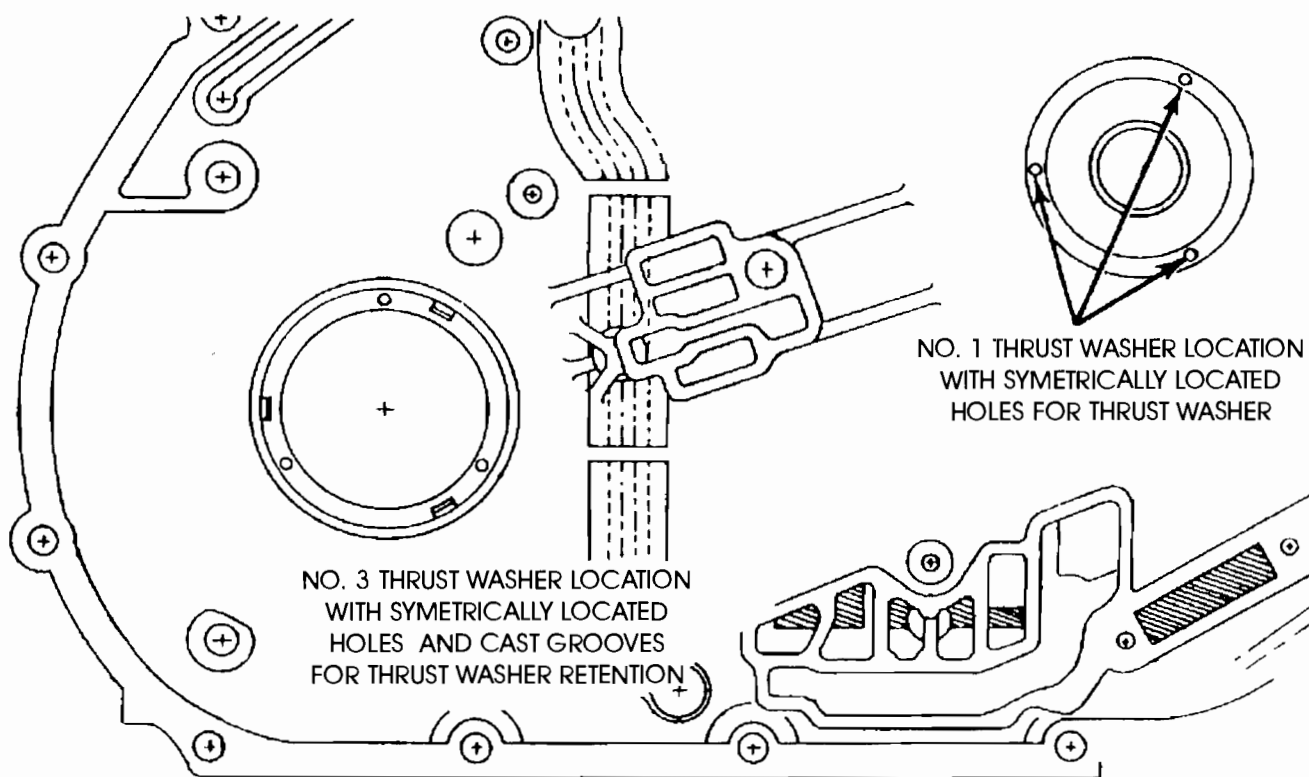

Figure 3
- (3) **CHAIN COVER** - New design will accept either the previous bronze No. 3 thrust washer with the tangs on outside diameter, or the new design Black plastic No. 3 thrust washer with the 3 symetrically located tabs, as shown in Figure 3.
The new design Chain Cover will accept *only* the new design No. 1 thrust washer with 3 symetrically located tabs, as shown in Figure 3.